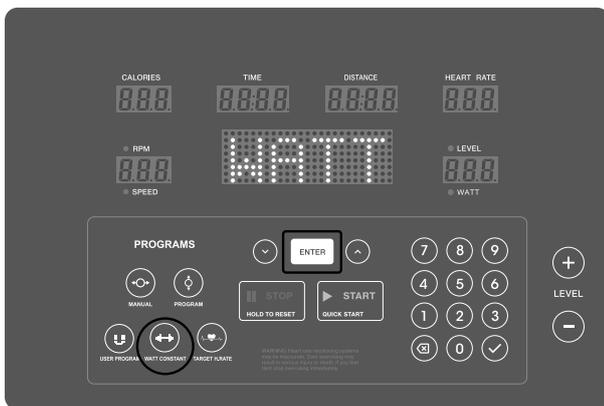

FIGURE 14
1. Select WATT CONSTANT (Figure 14).